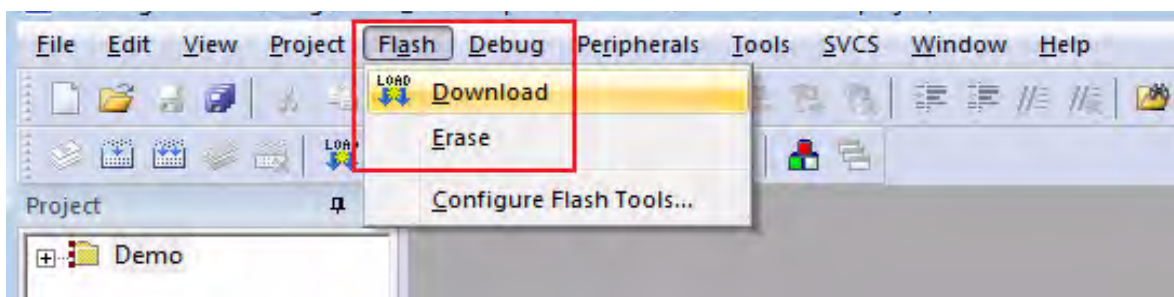

Figure 41. The Keil IDE Flash Menu
- From the **Flash** menu of the Keil IDE (see Figure 41), select either of the following options: